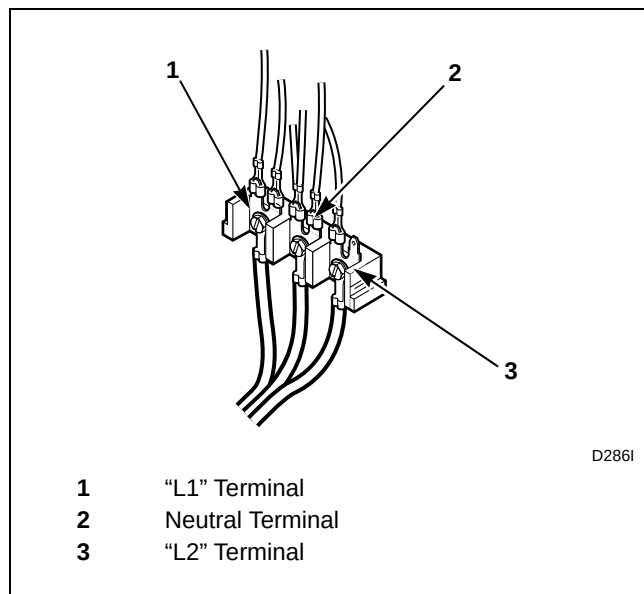

Figure 16
4. Use the three screws from the accessories bag to attach the power cord wires to the terminal block. Refer to *Figure 16*.